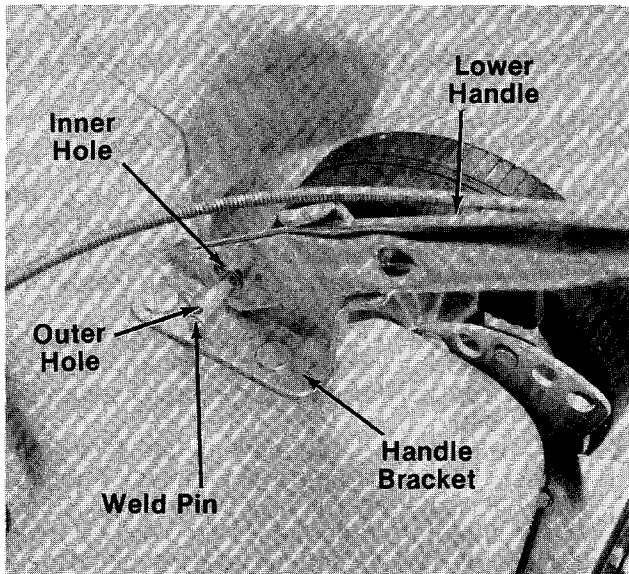

FIGURE 1.
- ← 2. Fasten lower handle in position over weld pins in handle mount brackets on deck. Secure with hairpin cotters in inner hole on weld pin. See figure 1.